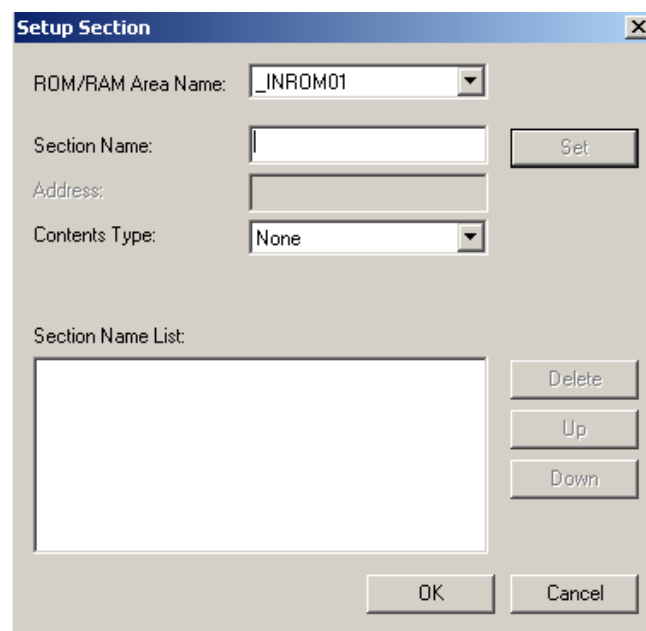
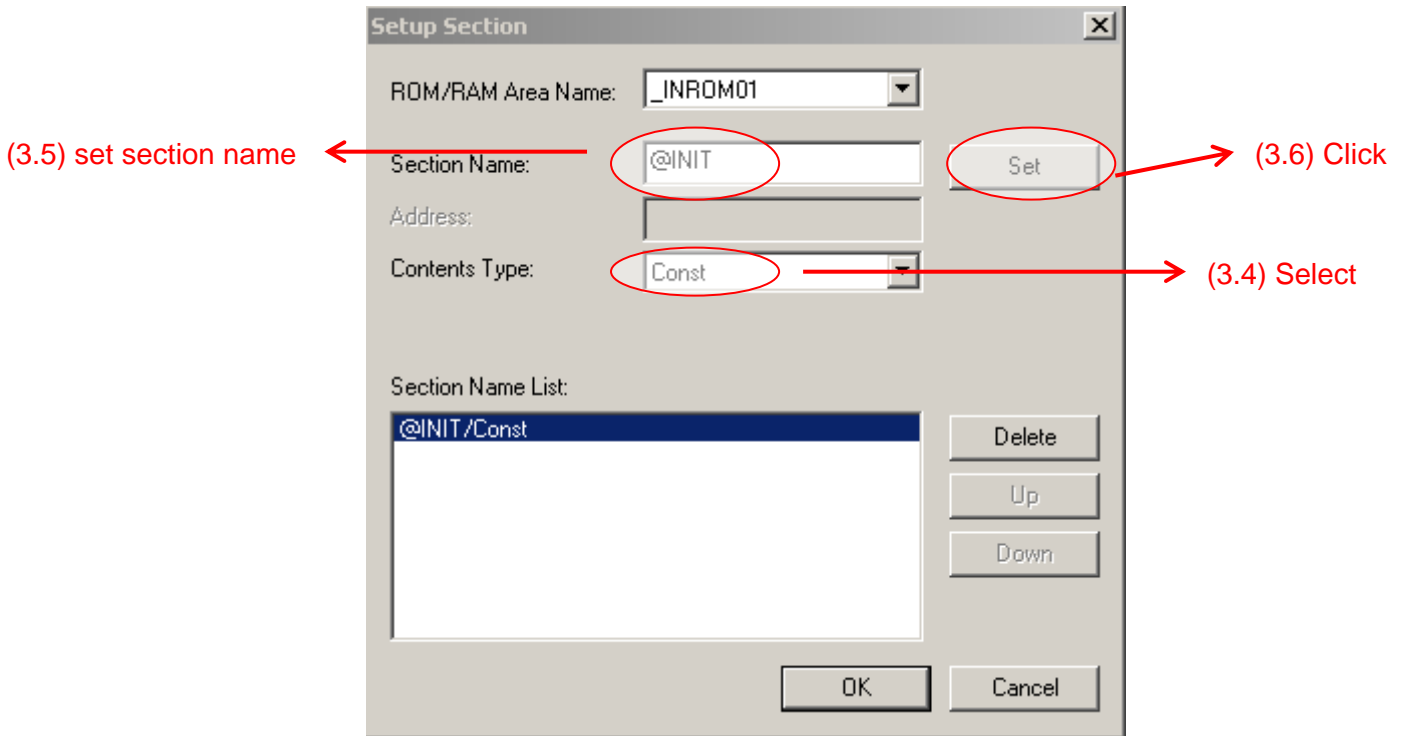
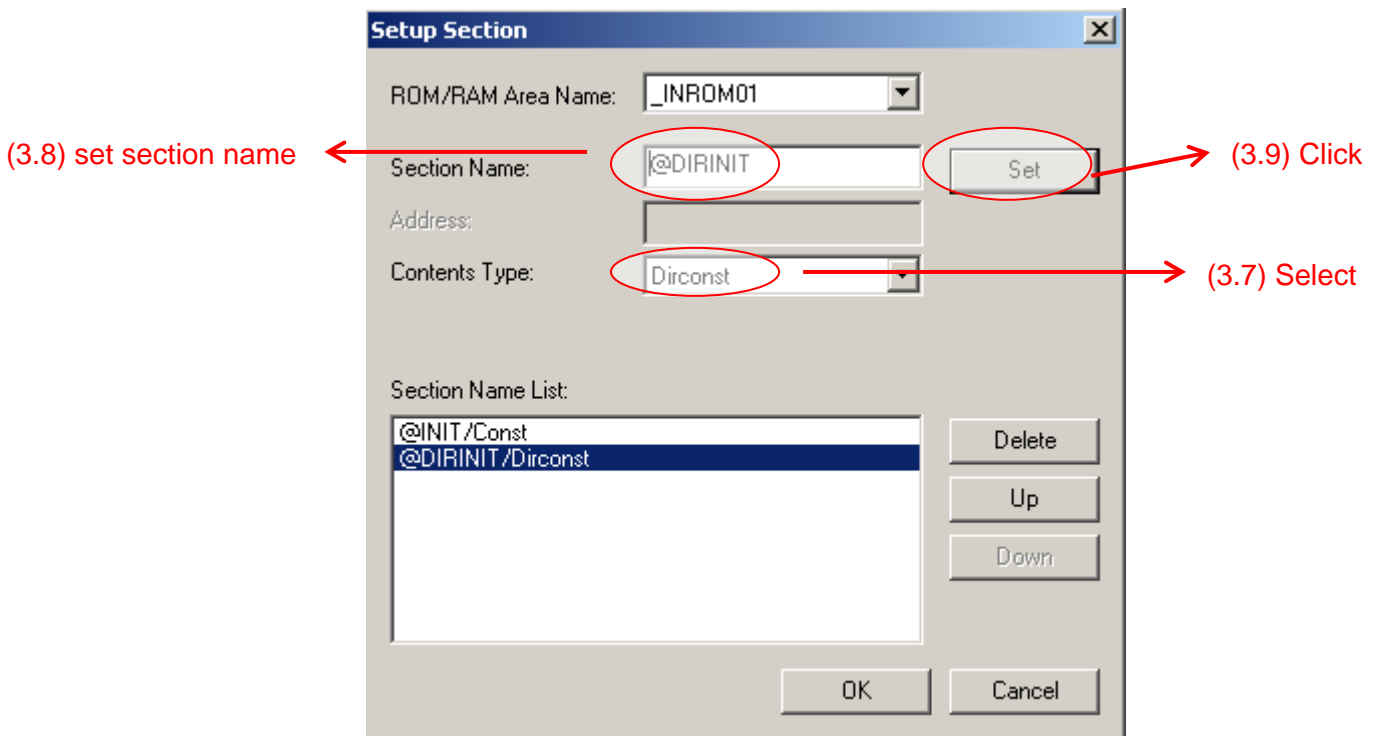

Figure 4-6: Section Setting Window
Figure 4-7: Set Const Section
Figure 4-8: Set Dirconst Section
(3) Reset all sections as their settings are cleared after MCU is changed. In “Project/Setup Project.../Linker”, set **Disposition/Connection** in **Category**, then select **_INROM01** and click **Set Section....** After that, a dialog window will pop up as shown in Figure 4.6 below. Set **Const (named @INIT)** and **Dirconst (named @DIRINIT)** as shown in Figure 4.7 and Figure 4.8.